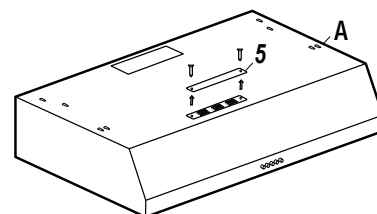

Fig.12
- If you are venting indoors, unscrew the 2 screws holding cover (5) in place and remove the cover as per Fig. 12. **DO NOT REMOVE ANY OTHER VENTING HOLE COVER.**